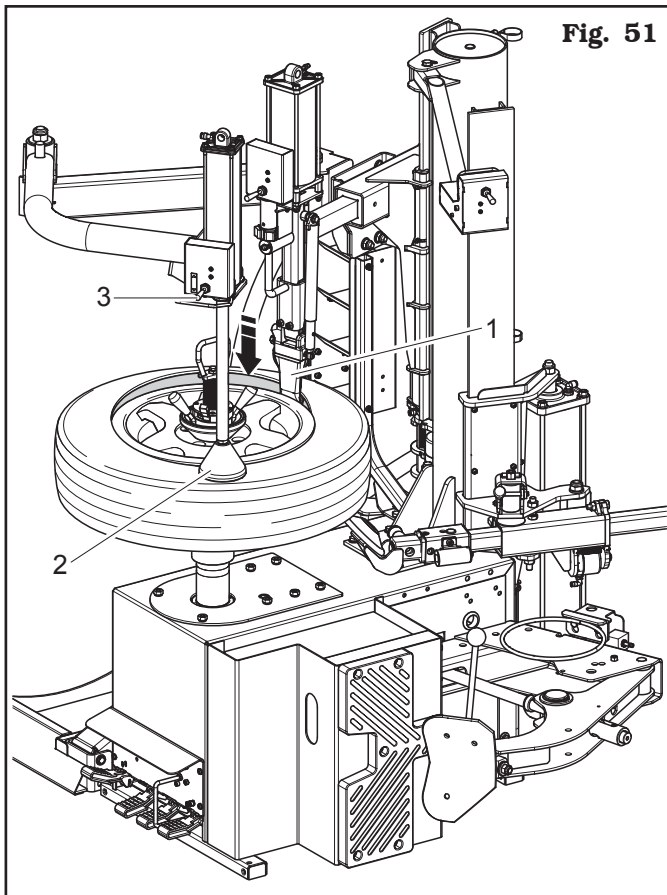

Fig. 51
4. Then, position the upper bead on the tool assembly area (**Fig. 51 ref. 1**).
5. Place the presser cone (**Fig. 51 ref. 2**) (if present) in "4 o'clock" position from the machine-head axis and press on the tyre operating the lever of the control unit (**Fig. 51 ref. 3**) downwards.